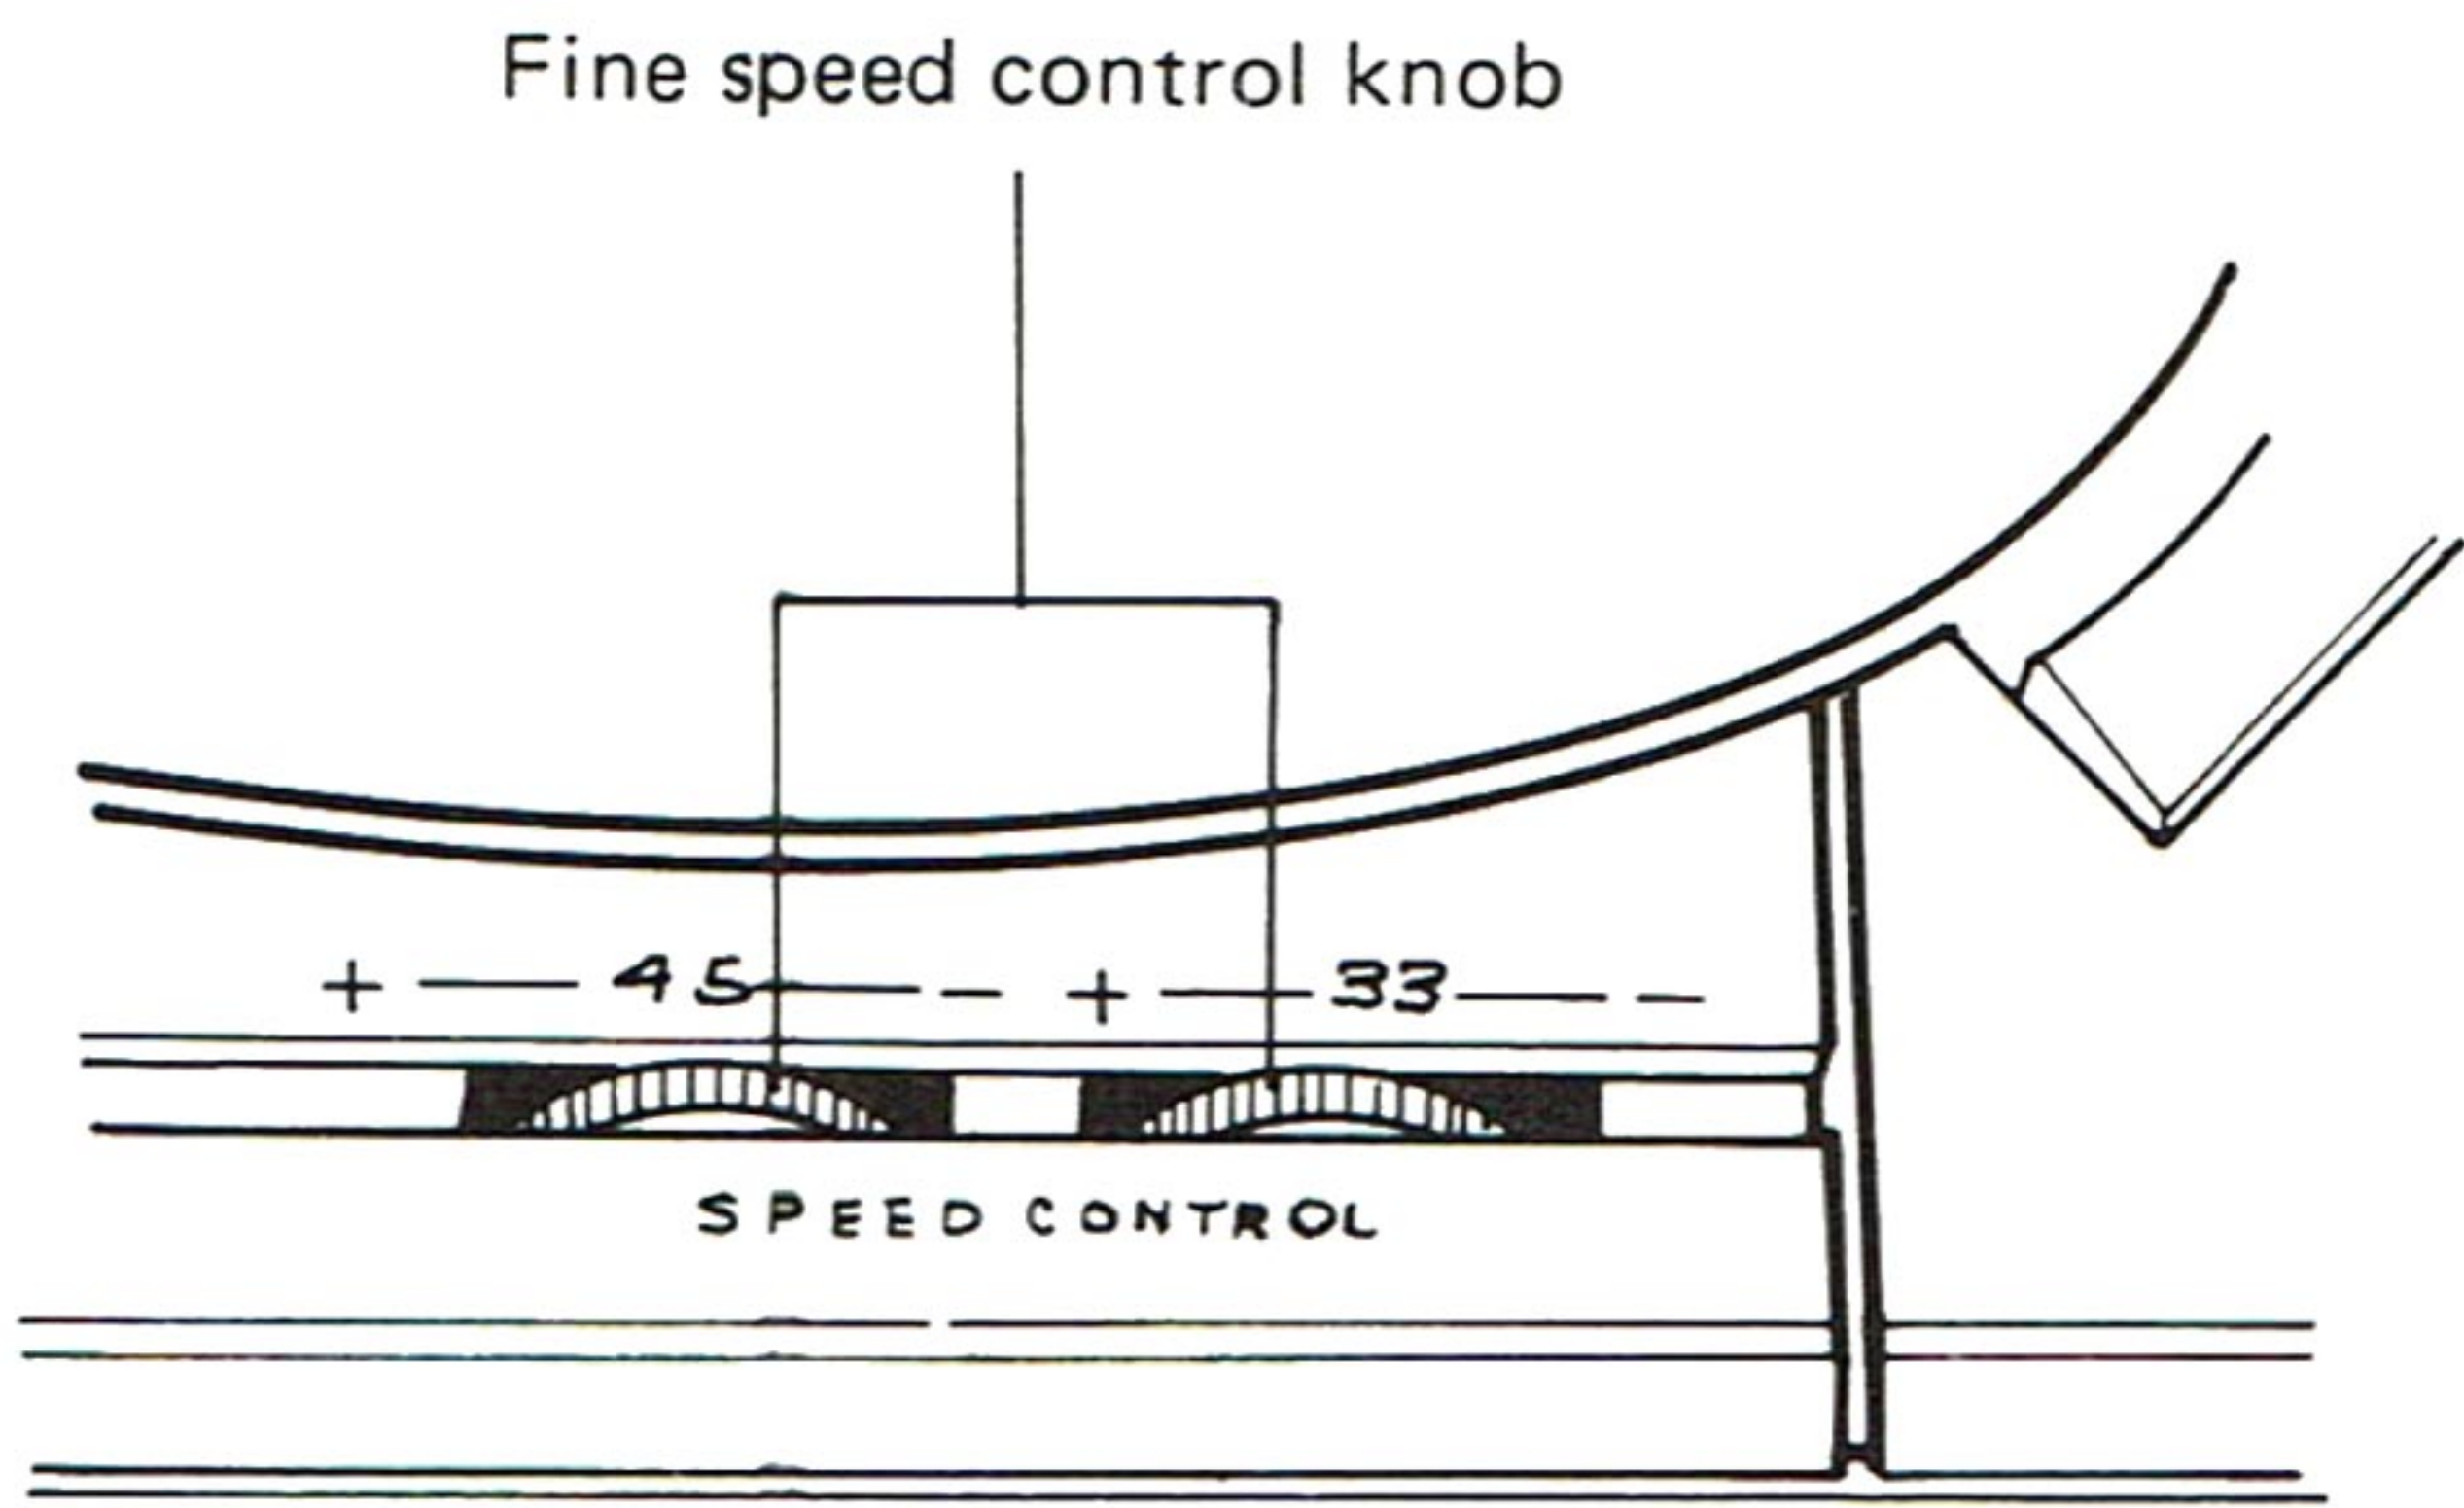

Fig. 9
5. Speed Adjustment: Check the stroboscope. Unless the stroboscope seems to stop, turn the fine speed control knob to adjust the rotating speed of turntable accurately (Fig. 9).